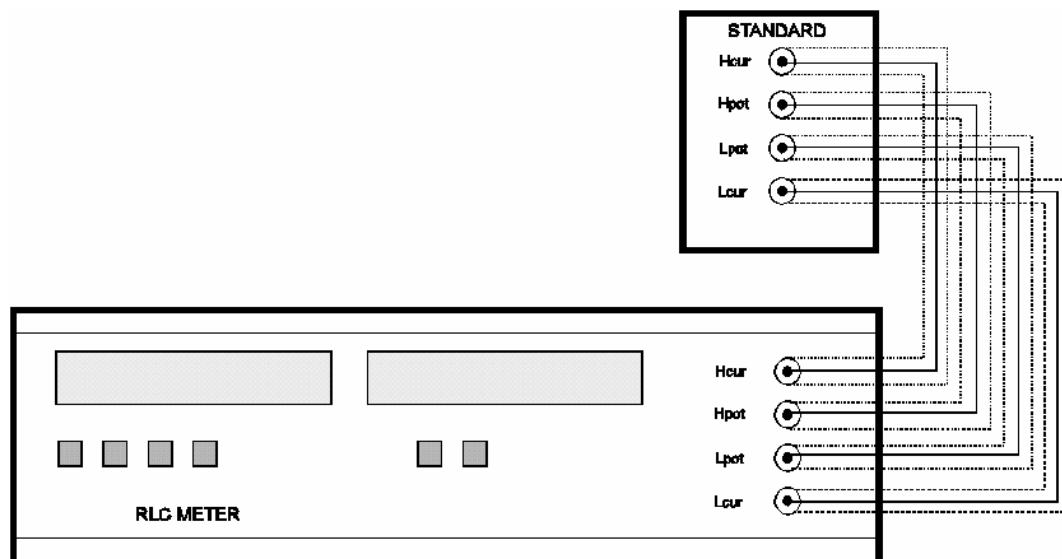

Fig.10. Standard connected to comparator RLC-meter
5. Connect to the RLC-meter corresponding standard according Fig 10. Record measured values of main A_{STD} and residual components B_{STD} .